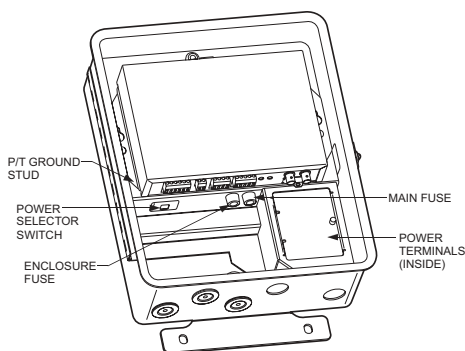

Figure 2. ERD2200 Receiver
1. Fuses are installed for 115 VAC operation. For 230 VAC operation, install the appropriate fuses (supplied). Refer to Figure 2.
2. Set the power selector switch to either 115V or 230V to match your input power. Refer to Figure 2.
3. Loosen the thumbscrew and lift out the door protecting the power terminals (refer to Figure 2).
9. Connect the pan/tilt controls (up, down, left, right, and common). Refer to Figure 2 for connection of P/T ground wire.